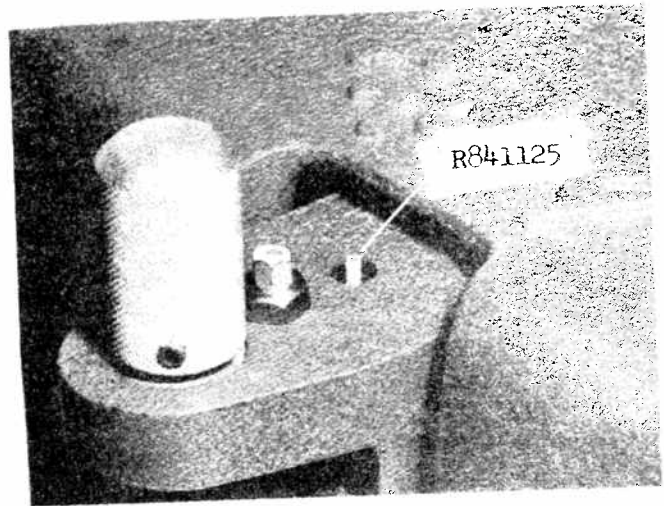

Figure 4
19. INDICATOR SHOWS DIRECTION OF HAMMER BLOW (See Figure 4): The hammers that do the tooth setting travel up and down. The machine may stop on either the upward or downward cycle. Each time the Setter is to be used, the operator must note in which direction the first setting blow will be; whether UP or DOWN.